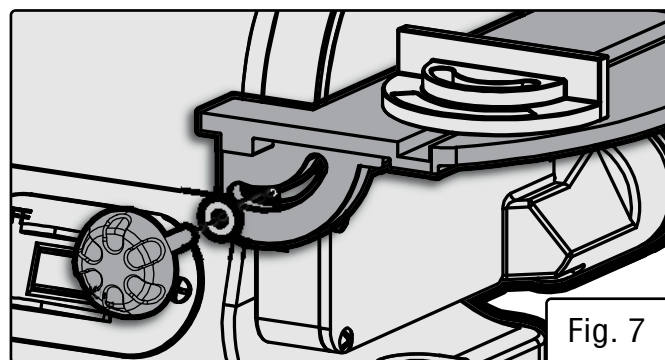

Fig. 7
2. Align the locking knobs with the holes on either side of the sanding disc (Fig. 7). Turn clockwise to secure the disc table into place.